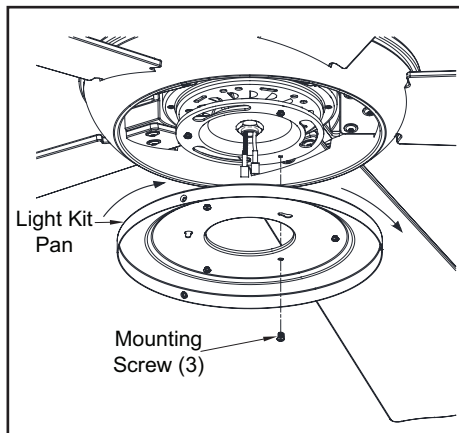

Figure 13
1. Loosen but do not remove two of three mounting screws from the fan motor assembly; Remove one mounting screw. (Figure 13)